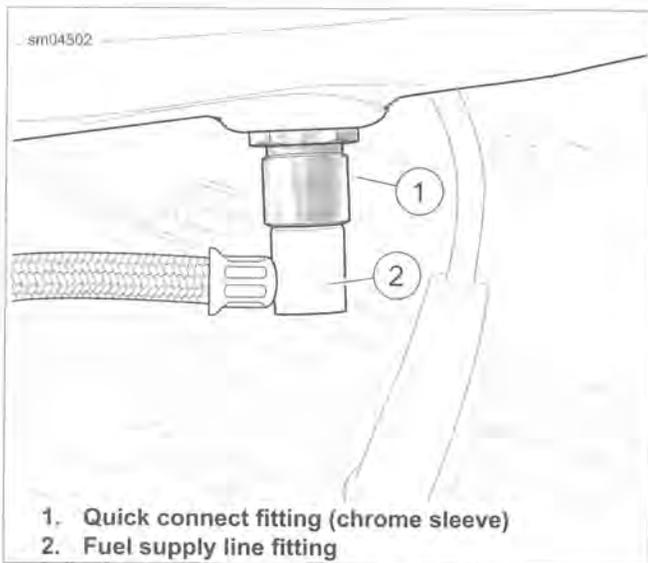

Figure 4-8. Fuel Tank (Left Side View)
- See Figure 4-8. Pull up on chrome sleeve of quick-connect fitting and pull down on fuel supply line fitting to disconnect.